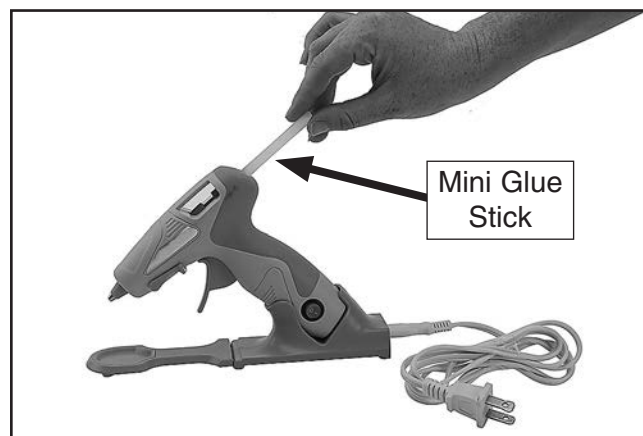

Figure 3. Inserting mini glue stick into glue gun.
4. Insert mini glue stick into back of glue gun (see **Figure 3**).